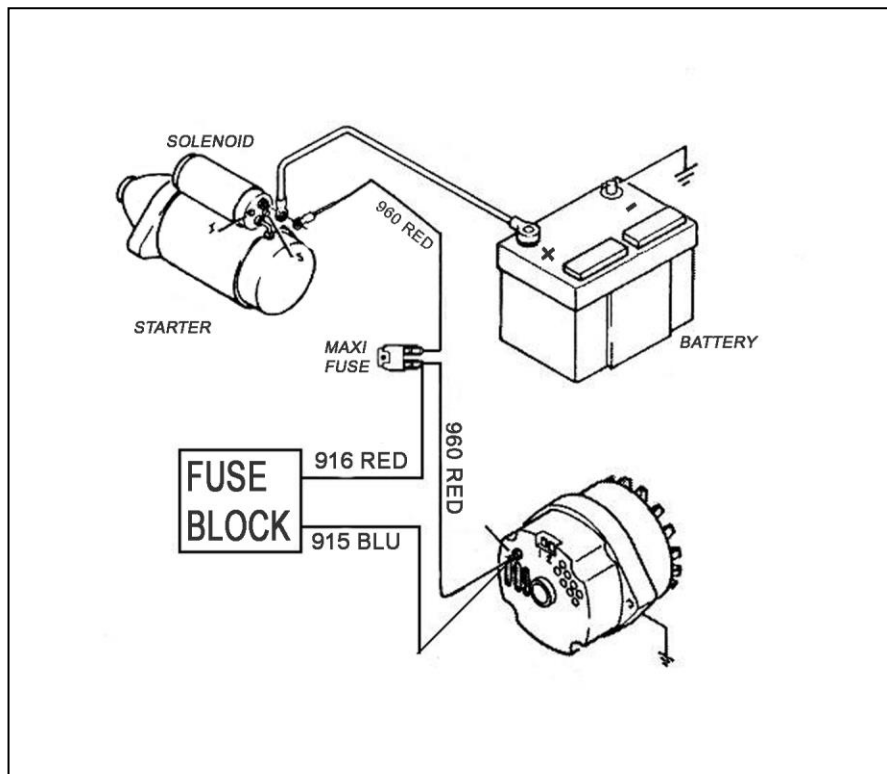

**Figure 7-1A** Mopar Alternator
- 7.1.1** Mopar uses one of two kinds of voltage regulators: An electronic regulator and a mechanical one. The electronic voltage regulator is represented in **Figure 7-1A**. It does not matter how the two terminals are connected, so long as they are BOTH connected. The mechanical regulator has terminals marked "F" (Field) and "I" (Ignition). In contrast to the electronic regulator, it DOES make a difference how the mechanical regulator is connected.
- 7.1.2** Connect ENGINE SECTION wire #914 (BLU) to the Alternator Field (F) terminal as shown in **Figure 7-1A**. Connect ENGINE SECTION wire #915 (BLK) to the Alternator Output lug (Bat).